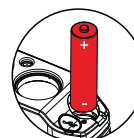

Figure 3
2. Put a battery into the battery compartment according to the polarity instructions, as shown in Figure 3. Please be sure to install the battery according to the anode and cathode, otherwise the product may be damaged due to a short circuit.